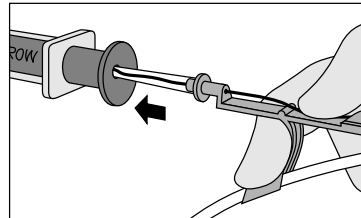

Fig. 5
- Place the tip of the Advancer™ — with “J” retracted — into the hole in the rear of the Raulerson Syringe plunger (refer to Fig. 5).